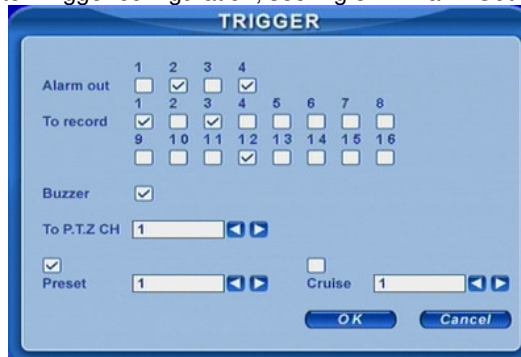

Fig 3.12 Alarm Out Setup
STEP3 Enter Trigger configuration, see Fig 3.12 Alarm Out Setup